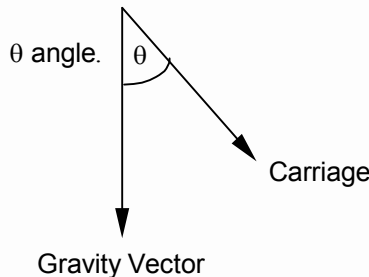

Figure 9. Definition of the carriage angle.
If the *90 Series* is not always horizontal and changes orientation, then two system variables have to be considered when achieving a desired output force: the Process Equipment Weight carried by the AFD and the angle of the Carriage with respect to gravity. The angle of the Carriage must be known so that the Process Equipment Weight can be compensated for. The Process Equipment Weight includes the AFD Carriage weight. This value can be back calculated from the area and pressure in the pneumatic actuator. The best method to determine the Process Equipment Weight is with a calibrated load cell. The angle of the Carriage to the gravity vector is defined as shown below in Figure 9.
- F_{am} = Net AFD applied force (N)
- θ = Carriage angle relative to gravity (See Figure 9)
θ = Carriage angle relative to gravity (See Figure 9)